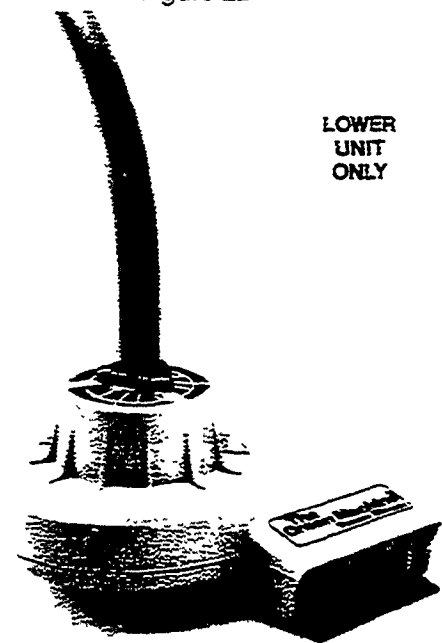

Figure 23
- This lower unit (Figure 23) is fully assembled at the factory and requires no further assembly.